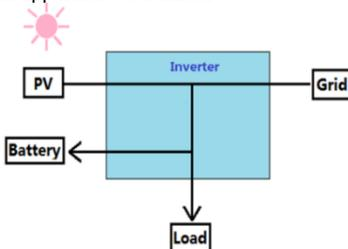

Figure 1-7
1. PV and grid supply power to load and charge batteries together. (Figure 1-7)